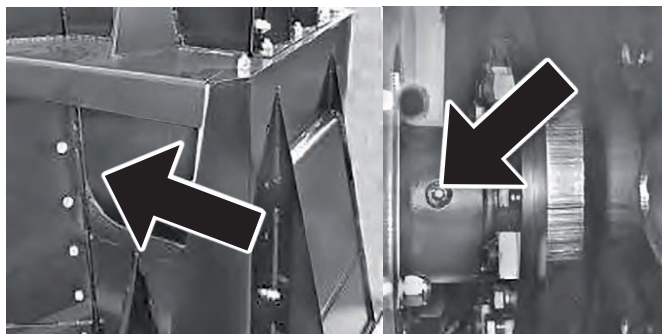

Figure 20
4. Grease the areas as indicated in Figure 20 by using the grease nipple.